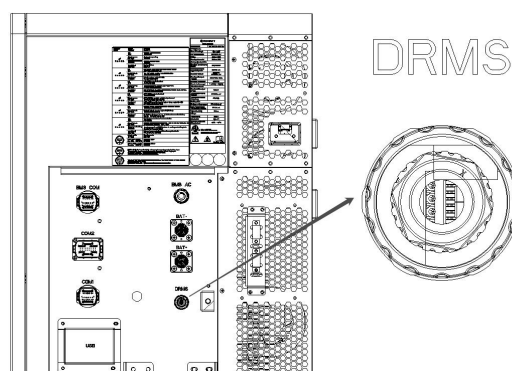

Fig 6.15 DRMS interface
3. After connection, reinstall the dust-proof cover. The position of the DRMS terminal is shown in Figure 6.15 below.